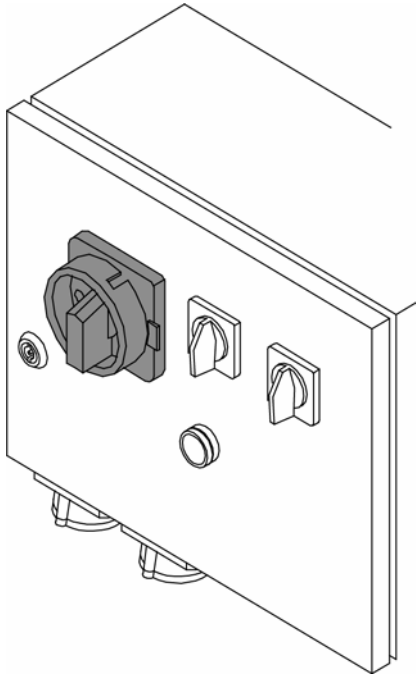

Fig. 57: Main switch
1. Immediately switch off the main switch (Fig. 57) which also serves as EMERGENCY STOP.